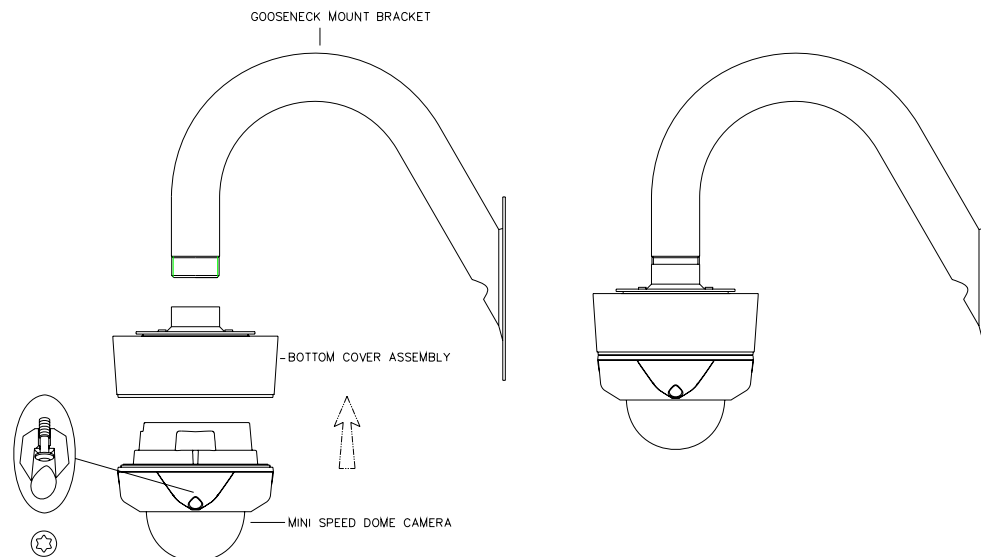

FIG.16
3. As shown on FIG.16, after assembling mini PTZ and bottom cover assembly, drive the gooseneck mount bracket and fix. (FIG.16)